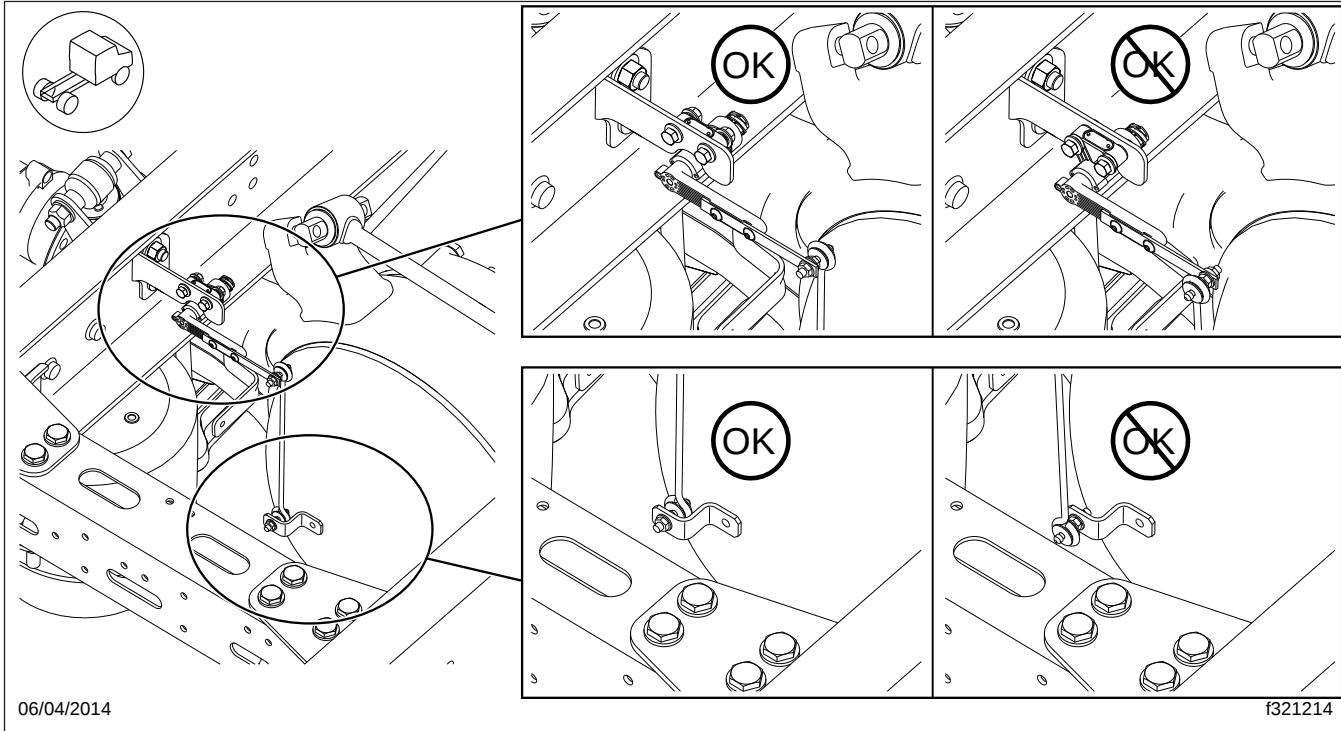
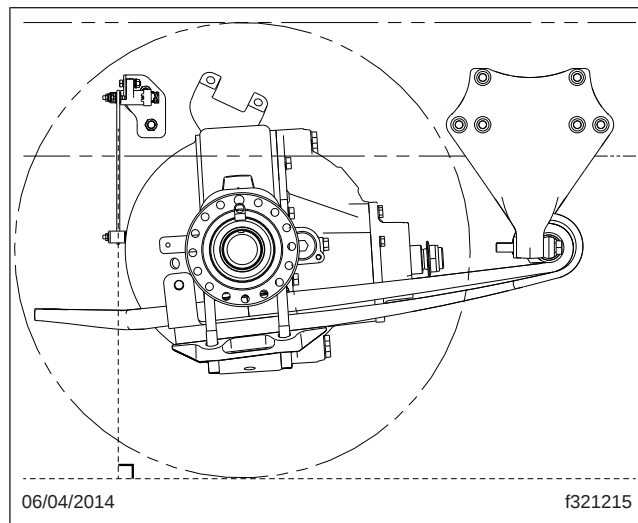

Fig. 1, Inspection of the Ride Height Sensor Installation
Fig. 2, The linkage rod should be perpendicular to the ground.
6. Compare the ride height sensor position of the vehicle to Fig. 1. The sensor should be installed on the forward side of the sensor bracket, and the linkage rod should be on the forward side of the Z-bracket on the axle. The linkage rod should be upright, with no fore-aft tilt, as shown in Fig. 2.
If the sensor or linkage rod are out of position, reposition them to match Fig. 1. While the sensor is off the vehicle, inspect it for damage. If any cracking is found on the arm or body, replace the sensor.
10. Reconnect the linkage, making sure it matches the installation in Fig. 1. Turn the key on and use the ECAS remote control to lift the suspension enough to remove the height blocks.